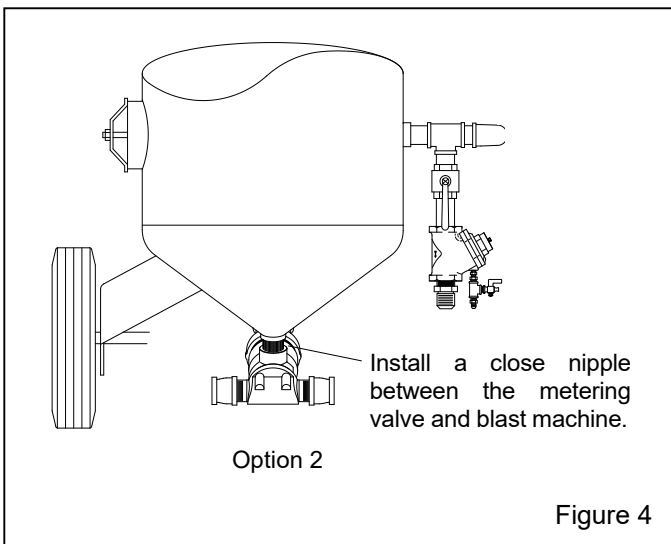

Figure 4
2.3.1.2 Option 2, Figure 4: Apply pipe thread sealant to the male threads of the 1-1/2-NPT x Close nipple, screw the nipple into the PT valve, and attach the valve to the bottom of the blast machine, as shown in Figure 4. **NOTE: If the coupling at the bottom of the blast machine is 1-1/4-NPT, an 1-1/2" x 1-1/4" bushing for the PT Valve and a 1-1/4-NPT x Close nipple to the blast machine are required.**